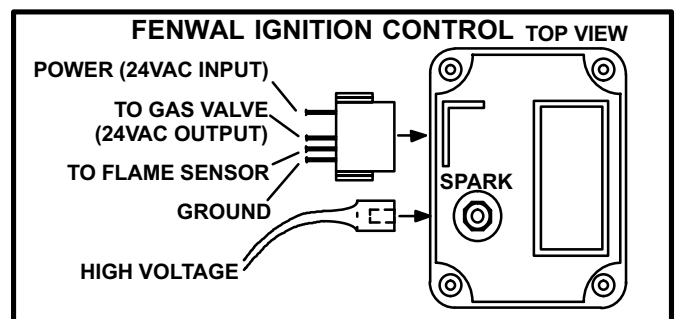

FIGURE 9
- b- The Fenwal control is illustrated in figure 9. The four-wire harness, plugged directly into a jack on the side of the control, is used to connect control to unit. Each of the four jack terminals is identified by function. The spark electrode wire connects to the spark plug-type connector on top of the control.